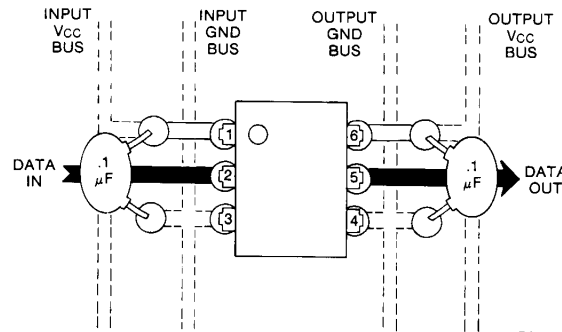

Fig. 20. Suggested PCB Lay-out
1. The  $V_{cc0}$  and  $V_{cc1}$  supply voltages to the device must each be bypassed by a  $0.1 \mu\text{F}$  capacitor or larger. This can be either a ceramic or solid tantalum capacitor with good high frequency characteristics. Its purpose is to stabilize the operation of the high-gain amplifiers. Failure to provide the bypass will impair the DC and switching properties. The total lead length between capacitor and optocoupler should not exceed 1.5mm. See Fig. 20.